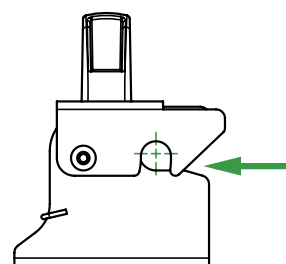

FIGURE 2
- Bring the rear bar of the chair closer to the anchoring opening of the closure located on the front of it (see figure 2).